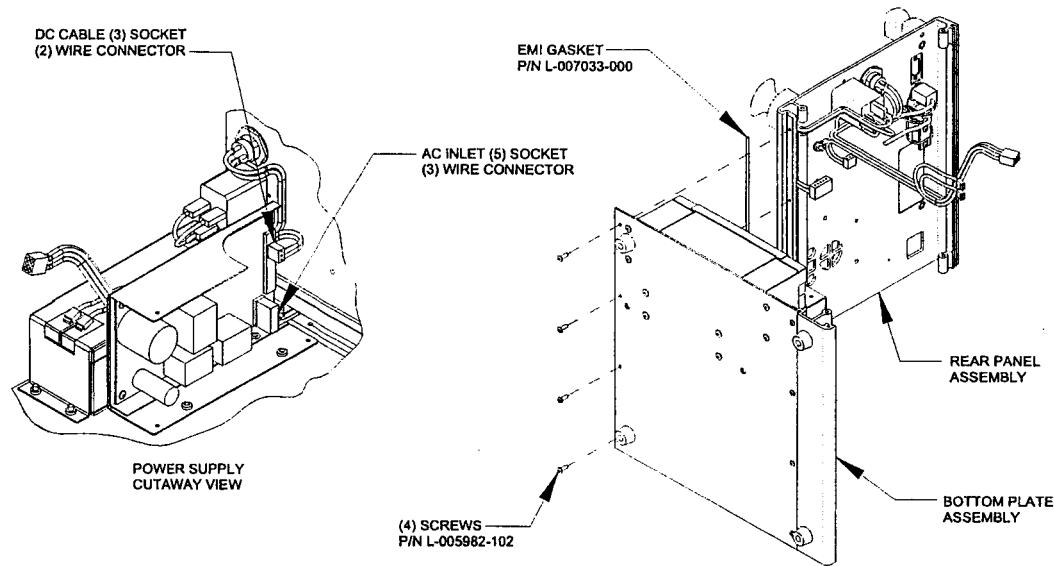

FIGURE 4-48.
1. Install the EMI gasket (P/N L-007033-000) into the bottom groove of the rear extrusion. See Figure 4-48. Verify that the gasket is flush with both ends of the extrusion.